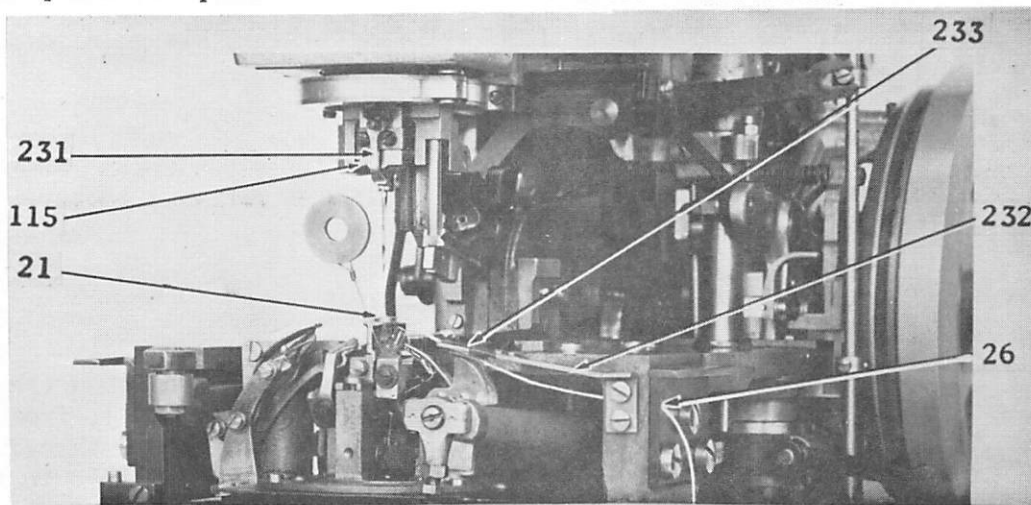

Fig. 43 Threading the Cord
guide stud (230), then pass the thread from back to front under the needle thread pull-off (8), through the thread hole in the guide stud (230), under the needle thread pull-off (9), and down through the needle bar (10) (inserting the threading wire furnished with the machine up into the needle bar from below to pull the thread through), pass the thread downward between the needle thread retainer arm (231, Fig. 43) and the face of the needle holder (115, Fig. 43), then pass the thread from back to front or toward you through the eye of the needle.
(See Fig. 43)
A light tension on the needle thread retainer arm (231, Fig. 43) will produce a reasonable length of needle thread end on the top side of the work. An increase in this tension will diminish the length of this thread end, therefore, care must be exercised to obtain the desired results. With the two above adjustments, enough needle thread will be left with which to start the next buttonhole without an excessive thread end showing on the finished buttonhole and sufficient slack will be produced so that the end of needle thread will not pull out of the eye of the needle in starting the sewing of the succeeding buttonhole.